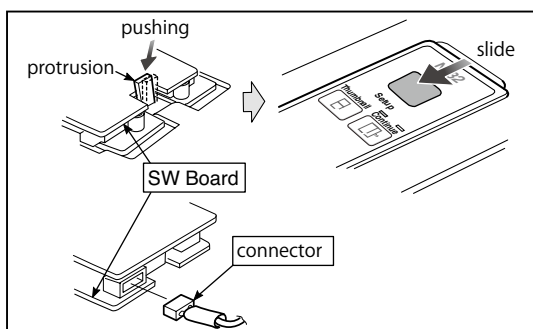

Fig.15
1. Remove the SW Panel shown in the figure 15.